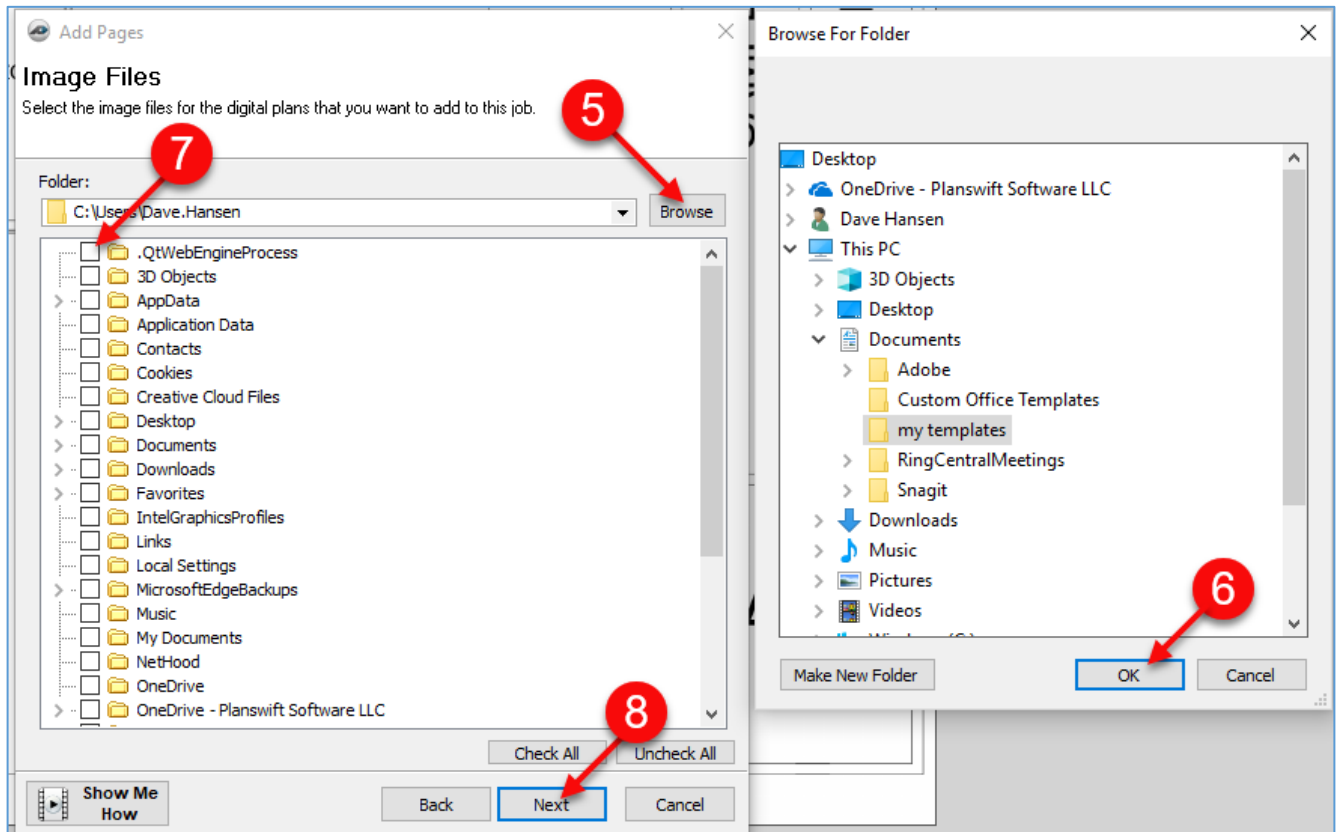

Figure 6-B
9. This opens the **Convert Settings** window (Fig. 6-C). Make any changes in this window.